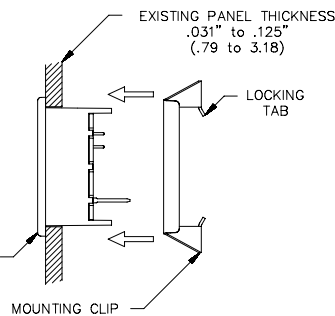

FIGURE 1
2. Install MDMV unit through panel cutout as shown in Figure 1.